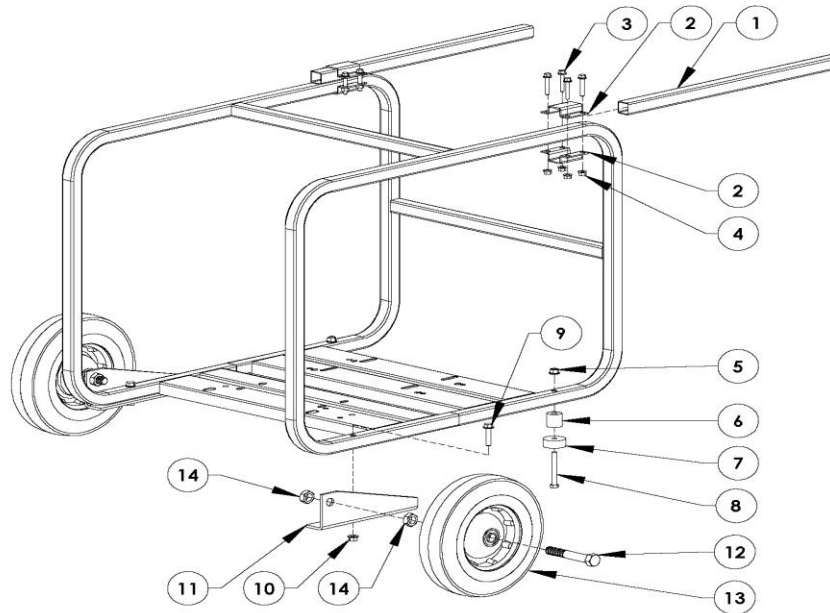

Figure 1 – Repair Parts Illustration
Tools required: 3/8", 7/16", 1/2", & (2) 15/16" box, open end, or socket wrenches, C-clamp. Refer to Repair Parts Illustration (Figure 1) for part identification and assembly reference.